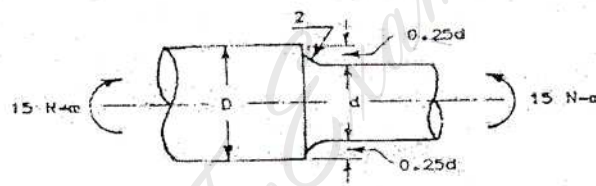
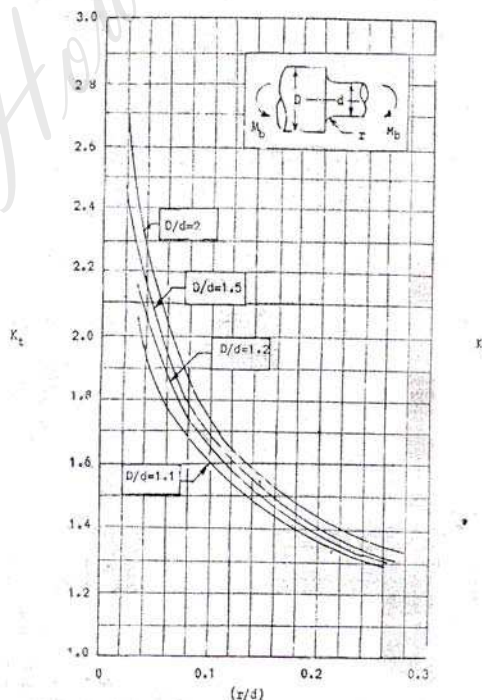

Figure 5
Figure 6
b) A round shaft made of brittle material and subjected to a bending moment of 15 N-m as shown in Figure 5. The stress concentration factor at the fillet is 1.5 and ultimate tensile strength of the material is 200 N/mm². Determine the diameter d , the magnitude of stress at fillet and the factor of safety. Refer Figure 6 for related data. 8